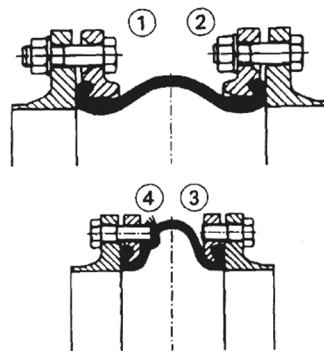

Figure 1 Flange fittings on a rubber expansion joint
- 2.17 For expansion joints with a flange connection, the bolts must be inserted from the bellow side (refer to installation type 1, Figure 1). If this is not possible, for installation type 2, the length of the bolts must be selected so that the bellows are not touched or even damaged. If the flange of the expansion joint has threaded holes, in particular make sure that the threaded bolt makes contact with the flange (installation type 3). The risk of damage through excessively long bolts is increased if the rubber bellows expand under pressure whilst operating (installation type 4).